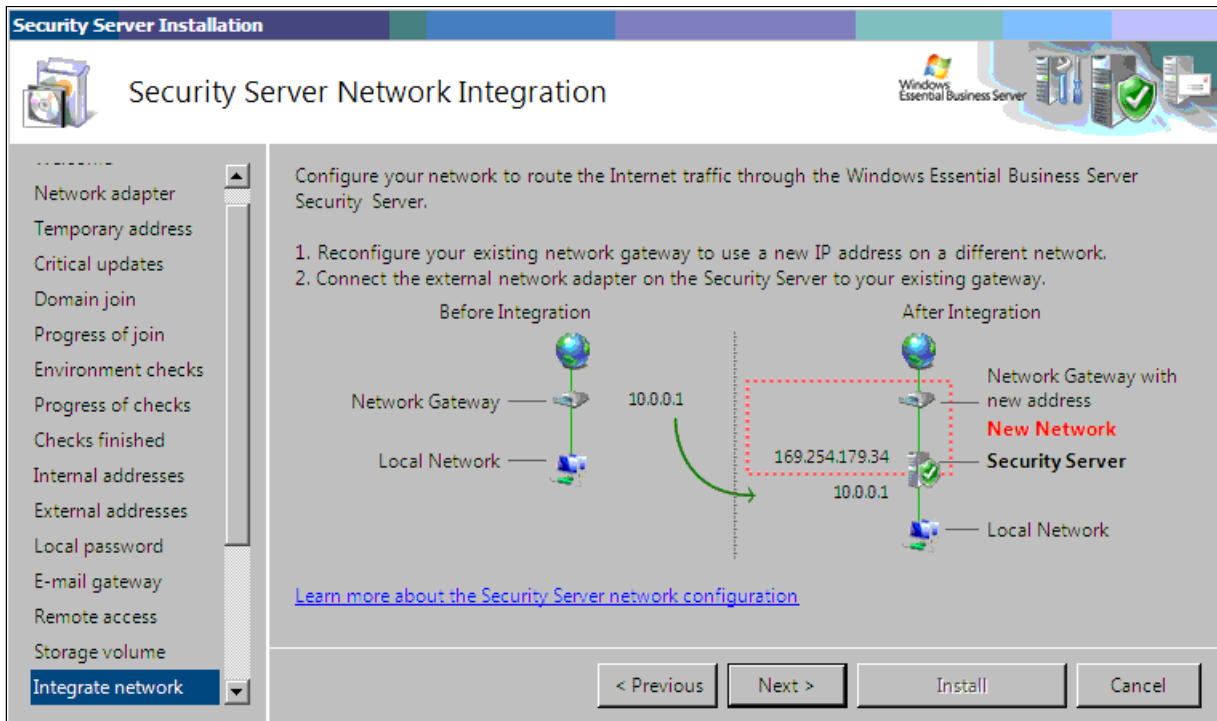

Figure 4-33 Security server network integration
24. On the “Security Server Network Integration” panel (Figure 4-33), follow the instructions to configure your existing network to route Internet traffic through the Security Server. You have two options: